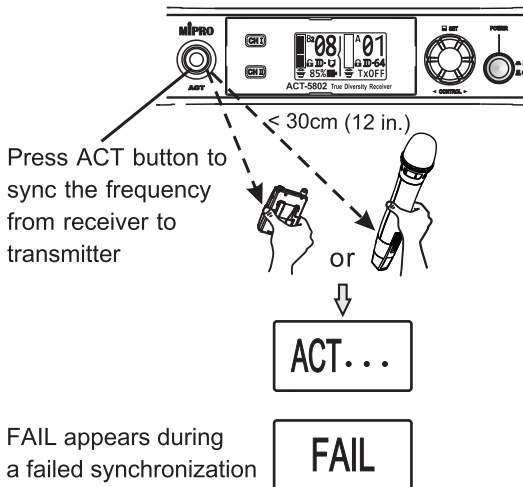

Fig. 31
- (A) Press the ACT sync button on the receiver, ACT... icon **1** appears.
Within 10 seconds, align the transmitter infrared (IR) port and receiver's ACT button with each other and within 30 cm. Fig. 31
- (B) If receiver display shows FAIL, it indicated the sync was done unsuccessfully. Try again when sync fails.
- (C) Change is saved automatically, even when power is turned off.